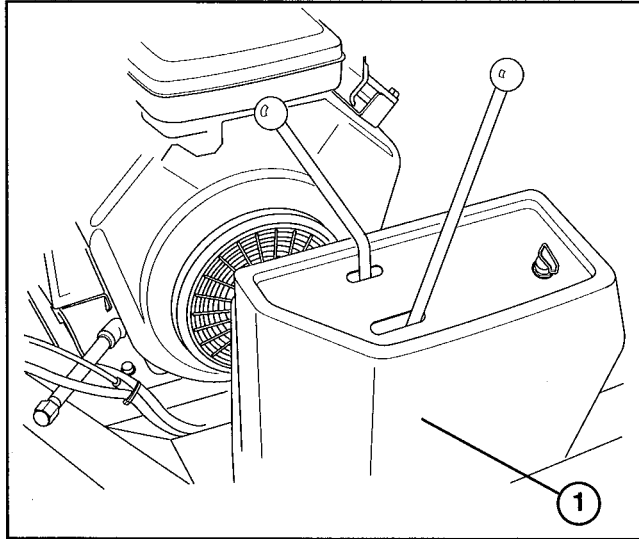

Figure 47
1. Remove control panel cover (Fig. 47).